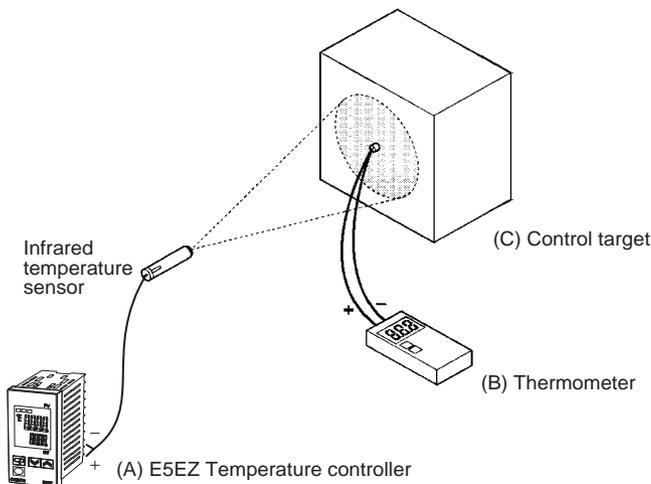

Figure 1 Configuration When Compensating an Infrared Temperature Sensor
2. Prepare a thermometer capable of measuring the temperature of the control target as shown in Figure 1 so that one-point shift or two-point shift can be carried out.
- In the configuration shown in Figure 1, bring the set point to near the value at which the temperature of the control target is to be controlled. Let's assume that the control target temperature (C) and the control target temperature (B) are matching.
- Check the control target temperature (B) and the controller readout (A). Take the following value as the input shift value, and set the same numerical values to "205L" and "205H".